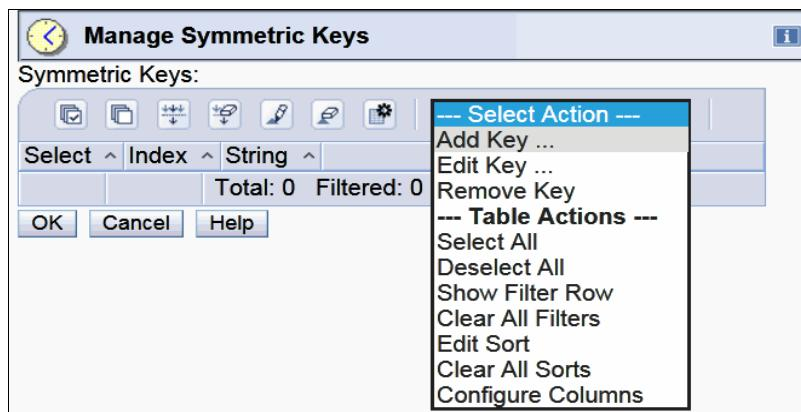

Figure 8-13 Add Symmetric keys
3. The Manage Symmetric Keys window opens (Figure 8-13). Click **Select Action** → **Add Key**.